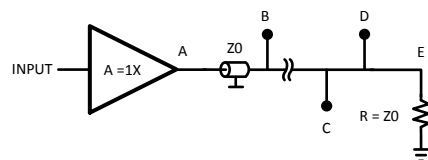

Figure 36.
- Use one buffer to drive to multiple points on one transmission line (see Figure 36)
Another transmission line possibility is to route the trace via several points along a transmission line (see Figure 36). This is only possible if care is taken to observe certain restrictions. Failure to do so will result in impedance discontinuities that will cause distortion of the signal. In the configuration of Figure 36 there is a transmission line connected to the buffer output and the end of the line is terminated with  $Z_0$ . We have seen in the section, Connecting a Load Using a Transmission Line, that for the condition above, the signal throughout the entire transmission line has the same value, that the value is the nominal value initiated by the opamp output, and no reflections occur at the end point. Because of the lack of reflections no interferences will occur. Consequently the signal has everywhere on the line the same amplitude. This allows the possibility of feeding this signal to the input port of any device which has high ohmic impedance and low input capacitance. In doing so keep in mind that the transient arrives at different times at the connected points in the transmission line. The speed of light in vacuum, which is about  $3 \times 10^8$  m/sec, reduces through a transmission line or a cable down to a value of about  $2 \times 10^8$  m/sec. The distance the signal will travel in 1ns is calculated by solving the following formula: